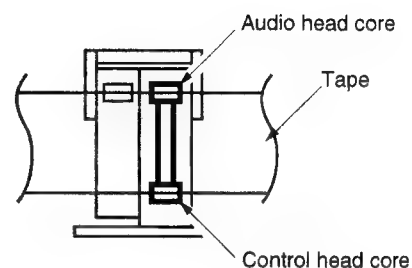

Fig. 2-7-5
2. Turn the ACE height adjusting screw so that upper tape edge matches to the upper edge of the audio head core. (Refer to Fig. 2-7-5.)